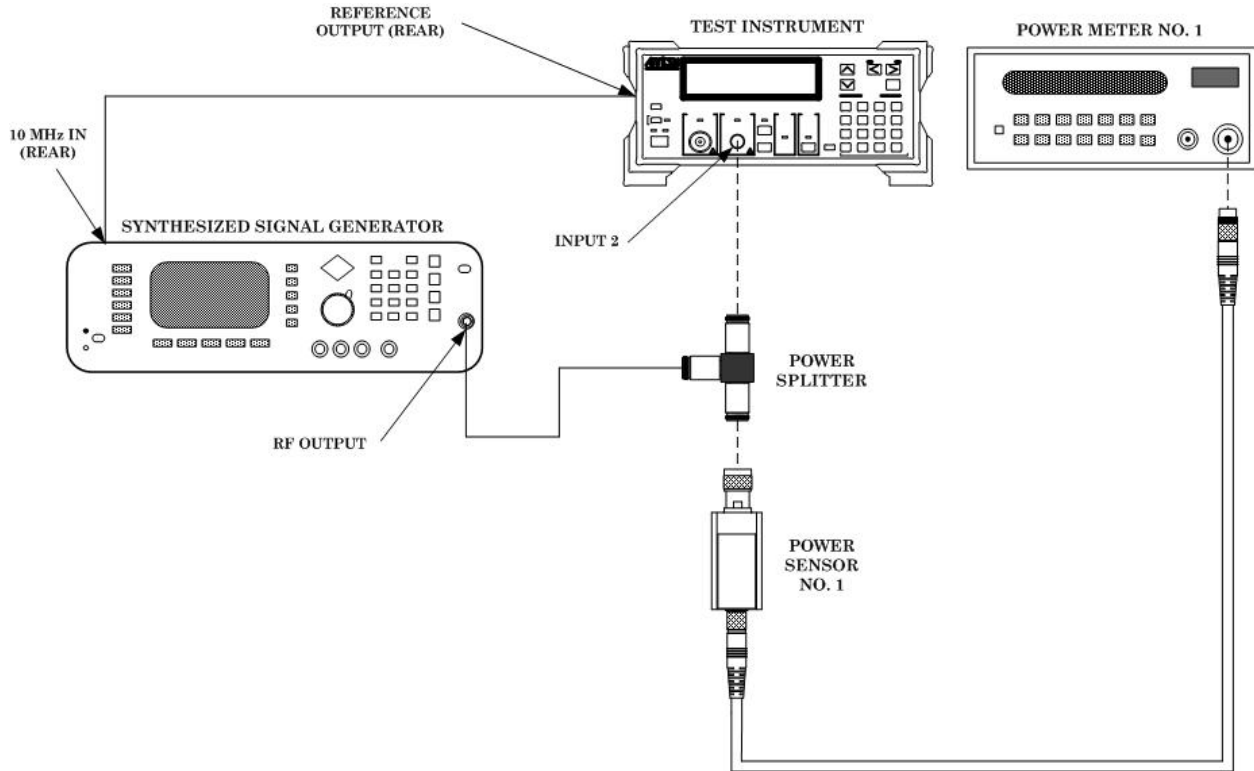

Figure 2. Input 2 sensitivity (50 Ω).
(5) Connect equipment as shown in figure 2.